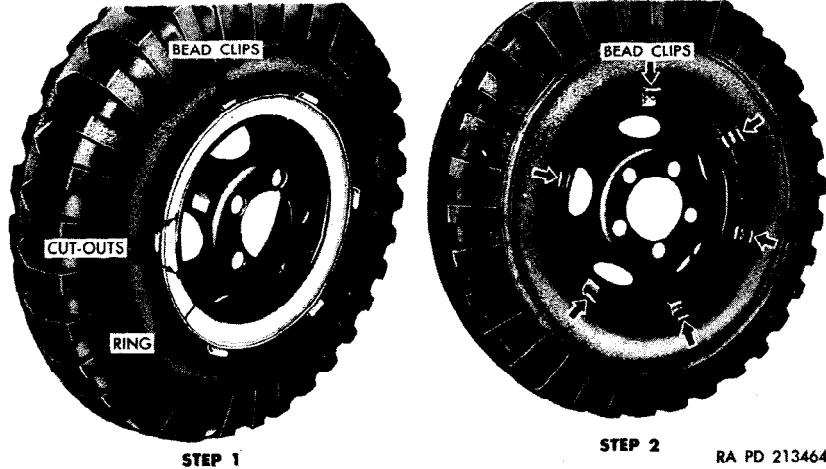

Figure 194. Removing tire.
- (1) Remove the wheel and tire (par. 227a).
- (2) Remove the valve cap, unscrew and remove the valve core from the valve stem, and deflate the tube.
- (3) Lay the wheel on the floor with the outer side up. Insert a pry bar between the tire and one of the bead clips, and press downward until tension on the clip is relieved. Tap the clip with a hammer to disengage it from the ring.
- (4) Repeat the operation in (3) above for each of the other five clips. Drive bar between clips and rim to break tire bead from rim.
- (5) Insert a pry bar between the ends of the ring and pry the end nearest the first cut-out in the ring (fig. 194) enough to permit a second pry bar to be inserted in the cut-out. Work the ring from the wheel flange, prying at the cut-outs in the ring, and remove the ring. Remove the six bead clips from the outer side of the tire.
- (6) Mark the location of the valve stem on the tire if the original mark has been obliterated and remove the tire, tube, and six inner bead clips. Remove the tube from the tire.